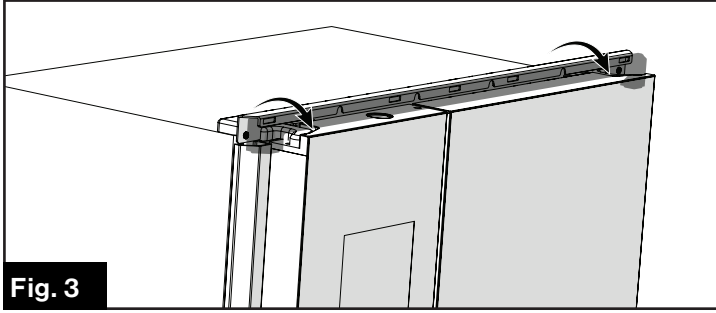
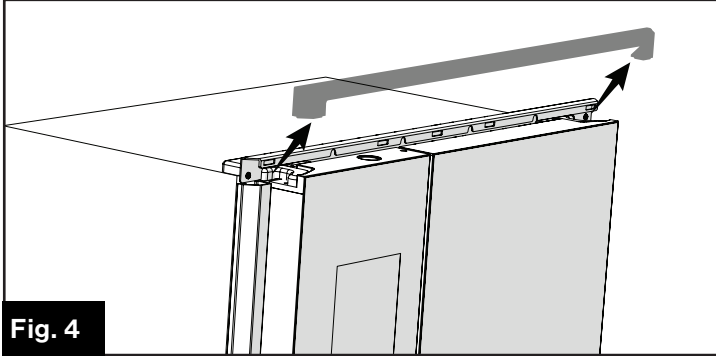
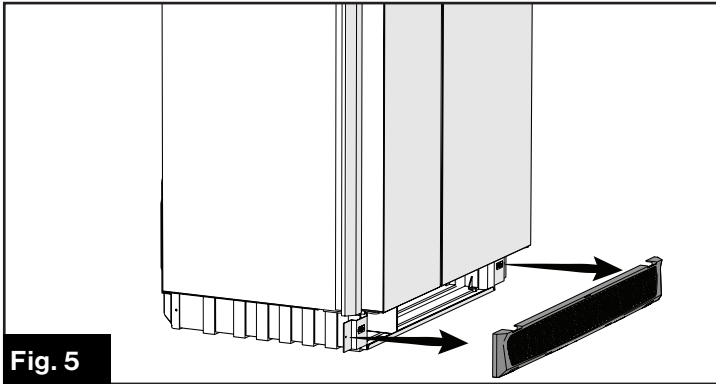

Fig. 3
Fig. 4
Fig. 5
4. Pull on the top of the exhaust vent towards you and lift to remove it from the refrigerator. (Fig. 3 and Fig. 4) Pull on both left and right sides to remove the bottom intake vent from the refrigerator. (Fig. 5)